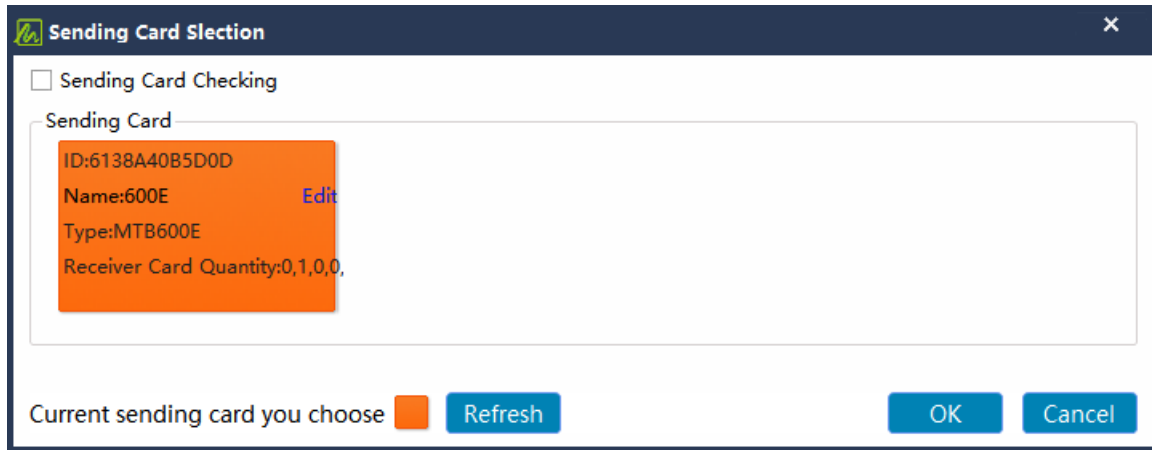

Figure 4-2-12 LED sending controller selection
- **Switch LED Sending Controller:** When multiple controllers are connected, click Switch LED Sending Controller to open the device-selection window shown in Figure 4-2-12.